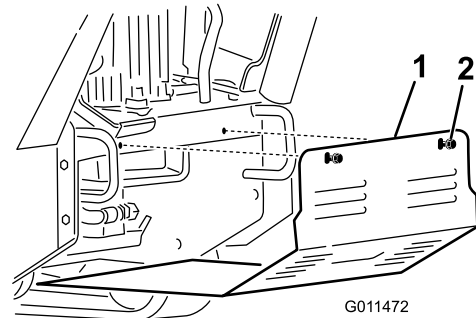

Figure 23
3. Loosen the 2 bolts securing the bottom shield sequentially until the shield is free (Figure 23).
5. To install the shield before operating the machine, slide the bottom shield into the machine so that it rests on all 4 tabs and secure it with the 2 bolts you loosened previously (Figure 23).